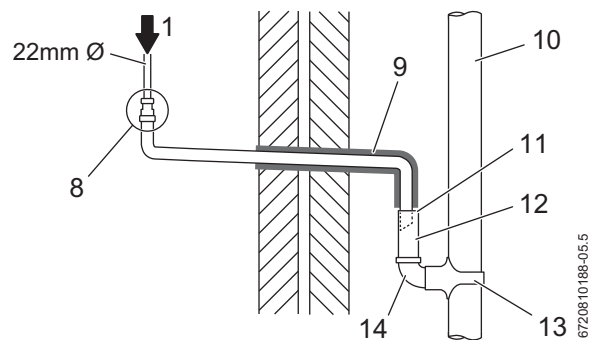

Fig. 15 Disposal into a rainwater down pipe
- Refer to figure 15 when a rain water down pipe is used to dispose of condensate.